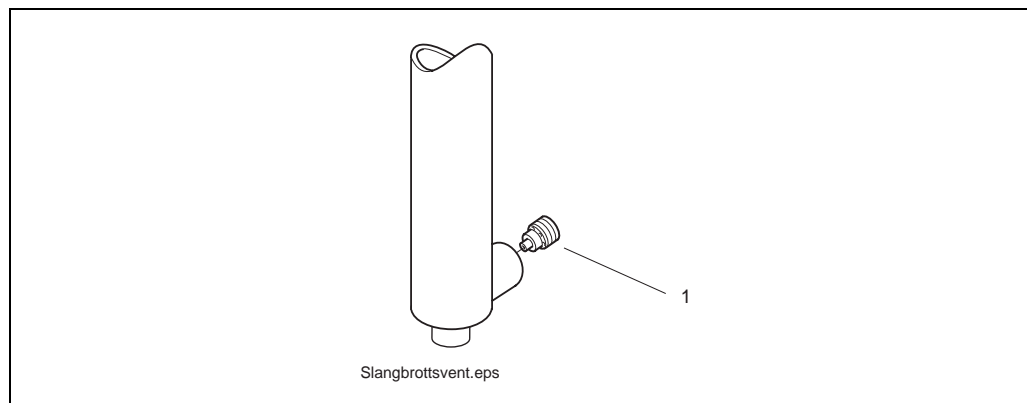

Figure 8.6 Hose rupture valve
5. Unscrew the hose rupture valve, pos. 1 figure 8.6, that is screwed into the cylinder.